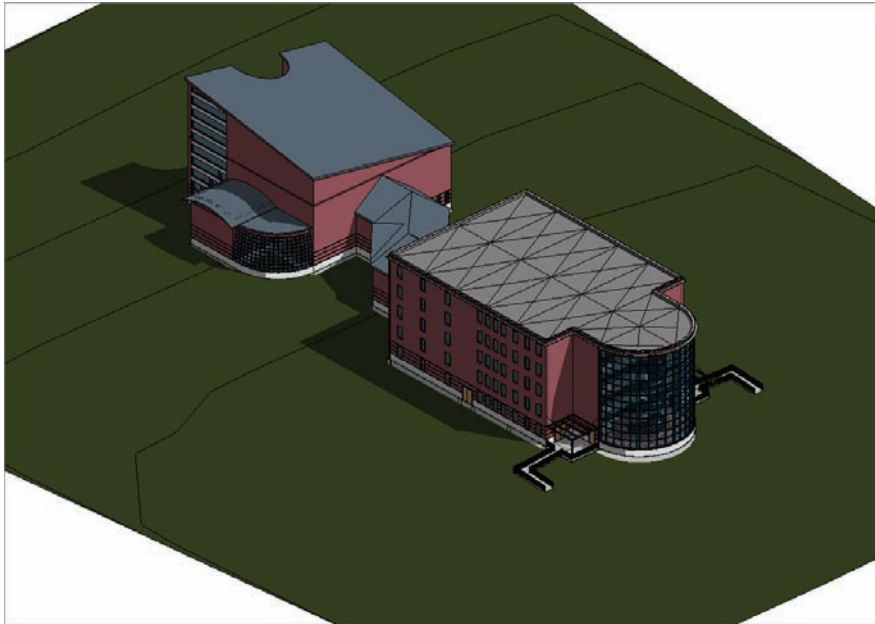

FIGURE 18.5 The toposurface
14. Go to a 3D view and check out your site, as shown in Figure 18.5.